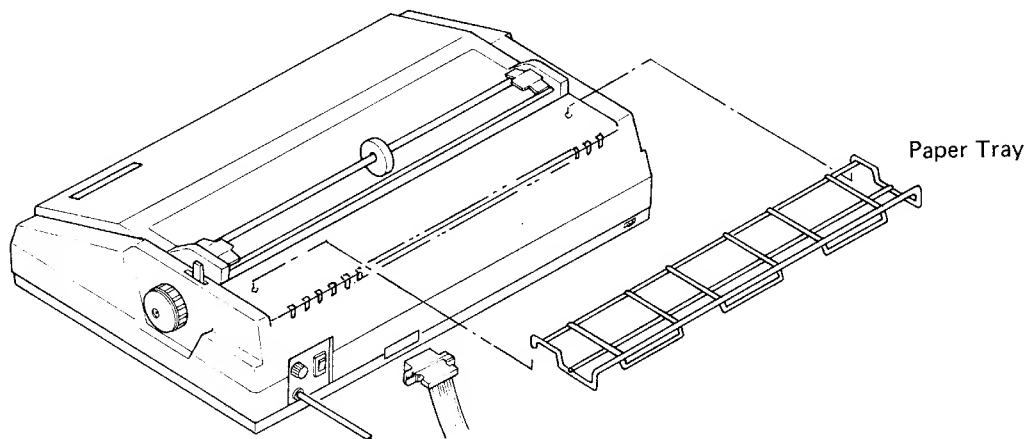

Figure 8
4. Be sure to install paper tray if not already in place. Refer to Fig. 8 for installation method.